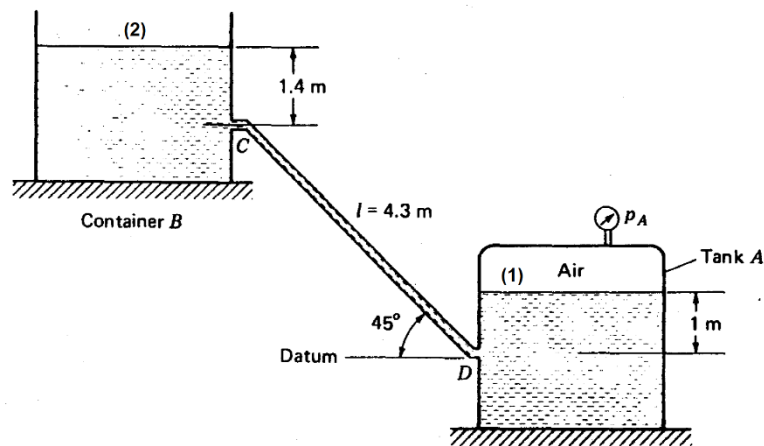

Figure 2
2. A capillary tube of inside diameter  $d = 6$  mm connects tank A and open container B as shown in Fig. 2. The liquid in A, B, and capillary CD is water having a specific weight  $\gamma = 9,780$  N/m3 and a viscosity of  $\mu = 0.0008$  N·s/m2. The pressure  $p_A = 34.5$  kPa gage. Neglecting the minor losses at C and D, determine the flow rate  $Q$  through the capillary tube. Assume laminar flow from A to B and use  $h_f = 32\mu LV/\gamma d^2$  for the friction loss, where  $V$  is the water velocity through the capillary tube.